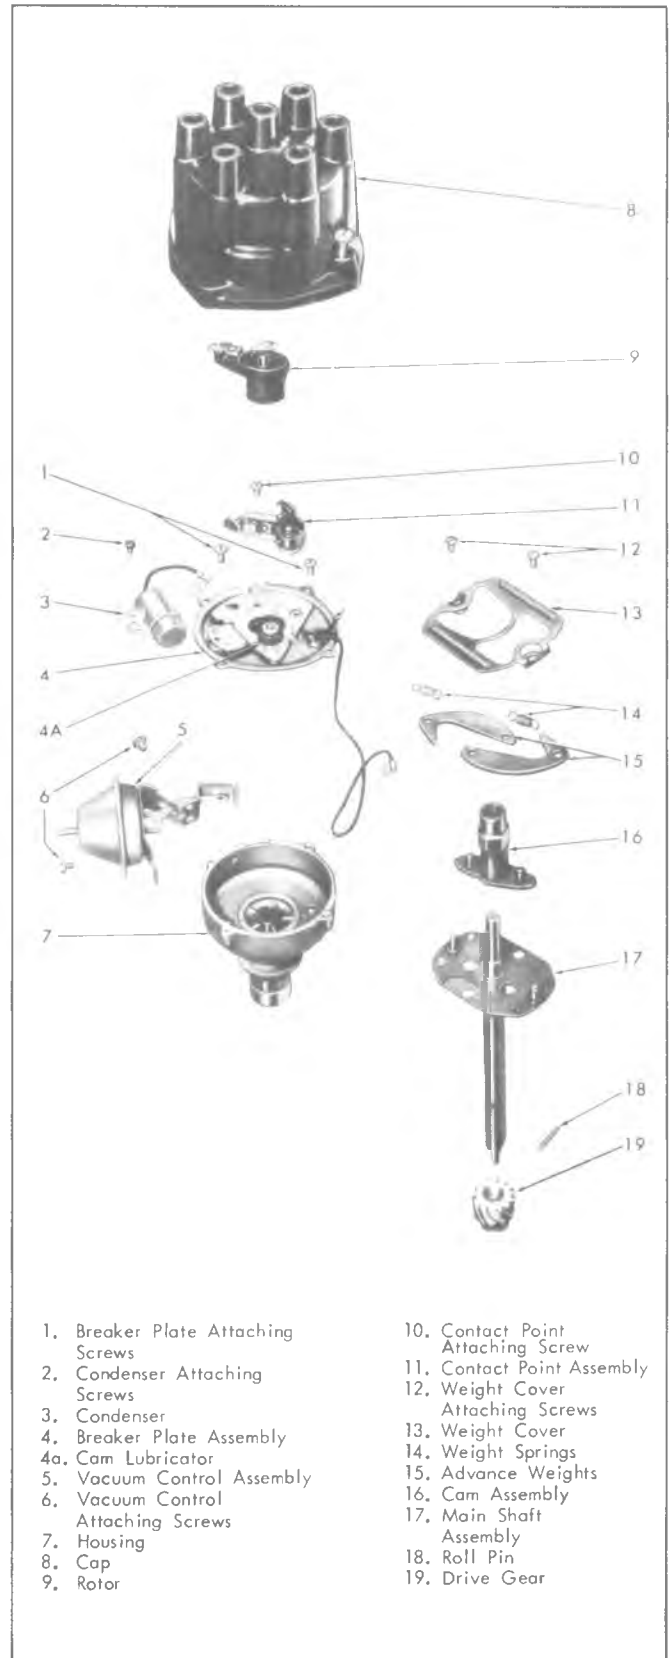

Fig. 10i—L-6 Distributor Exploded View
Refer to Figure 10i.
4. Remove the breaker plate attaching screws, remove the breaker plate from the distributor housing (fig. 10i).
Six Cylinder Engine (Fig. 10i)